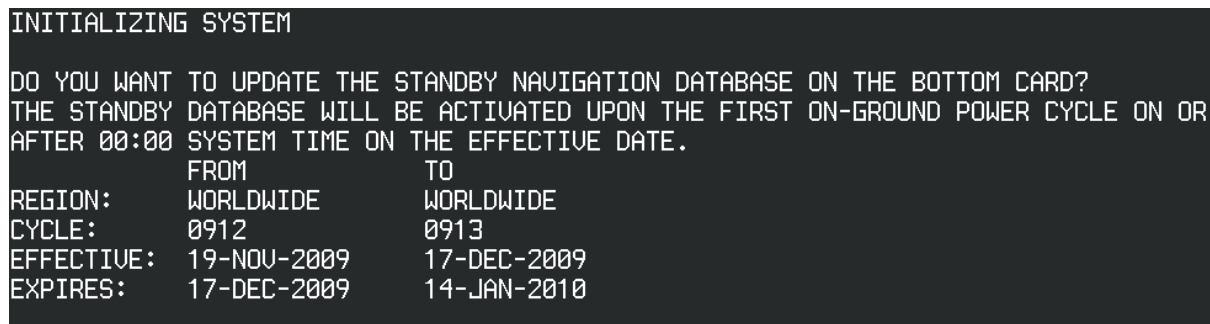

Figure B-10 Standby Navigation Database Prompt
- 3) Turn the system ON. A prompt similar to Figure B-10 is displayed.